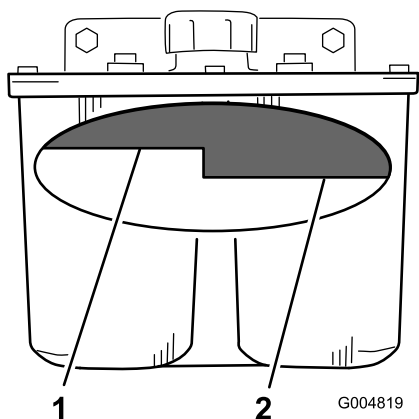

Figure 86
4. Clean the area around the filler neck of the hydraulic tank (Figure 86).
5. Remove the cap from the filler neck and look inside to check if there is fluid in the reservoir (Figure 86).
Note: The fluid level should be to the top of the hot level of the baffle, when the fluid is hot (Figure 86).